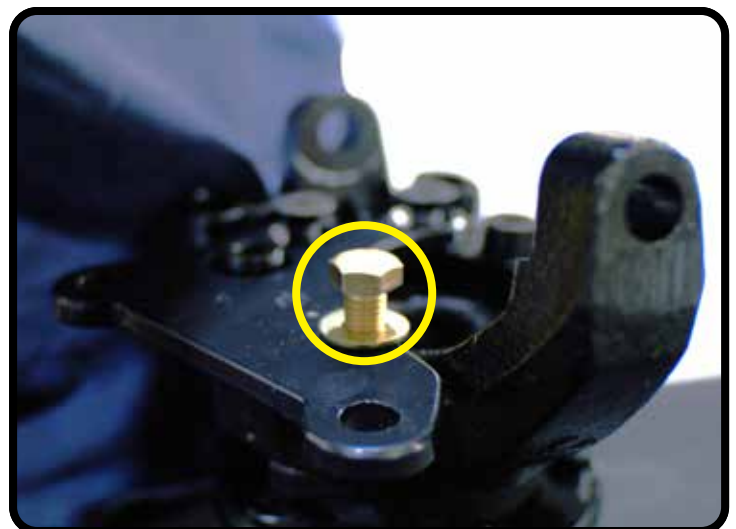

Figure 13
**18.** Insert a 1/2"-13 x 1.25" hex bolt into the upper mounting hole on the caliper bracket (Figure 13).